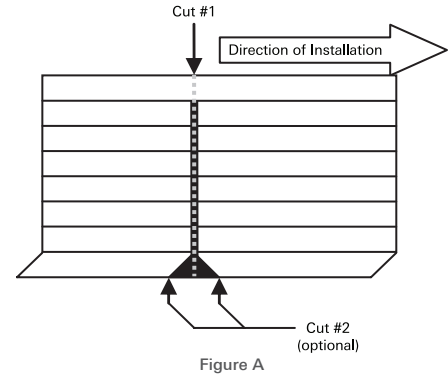

Figure 2
2. Fold the wall base at the line, face in, and shave the back of the wall base while folded (Figure 2), removing the line and approximately 1/8" of base material on either side of it. If you are using a topset gouge to make these cuts, turn the base face down and make your cut starting at the top and working down to the bottom (Cut #1). Note: Always gouge on the side of the line in the direction the base will be going. Important: The depth of this area at its deepest point should not exceed 20% of the base thickness.